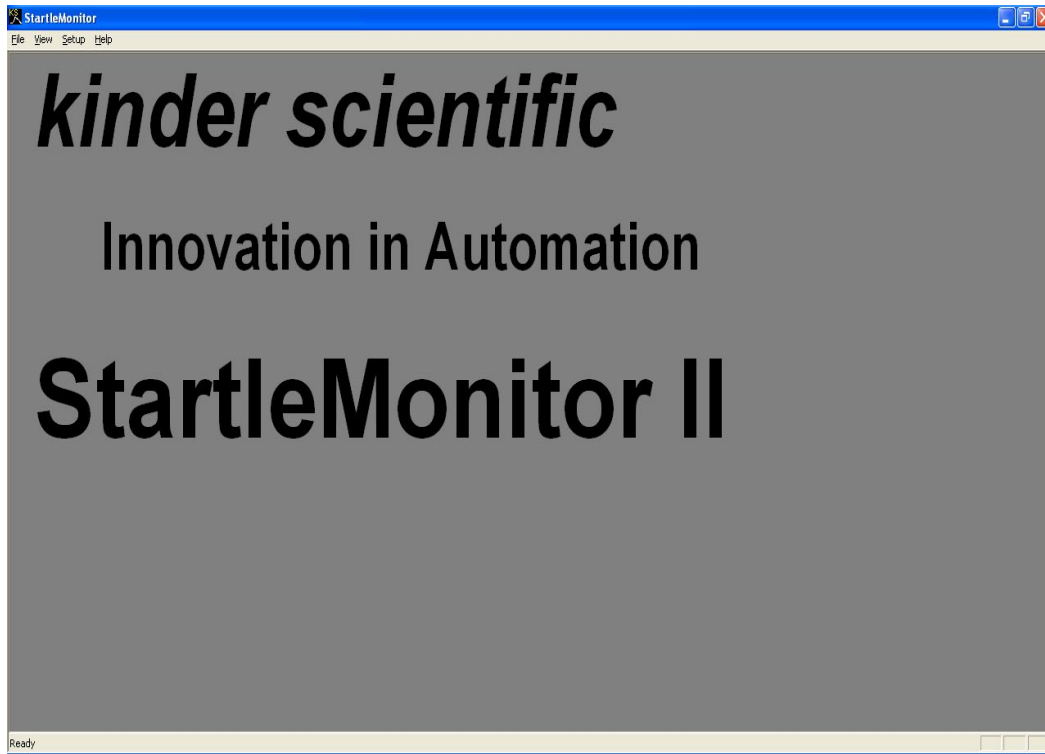

Figure 33 StartleMonitor II Start Up Screen
1. Turn on the PC and open the StartleMonitor II program. A screen like the one shown in Figure 33 will appear.